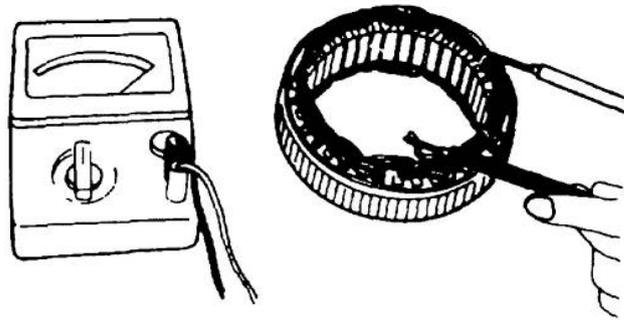

Figure 319 Continuity Test of the Stator Coil
- f. Check for continuity across the stator coils (Figure 319). If continuity does not exist, replace the coil assembly.